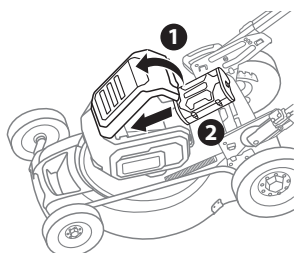

Fig. 7A
1. Lift open the battery cover (1, Fig. 7A).
2. Insert the battery pack into the lawn mower (2, Fig. 7A). Ensure the battery release latch on the bottom of the pack snaps into place and that the battery pack is fully seated.